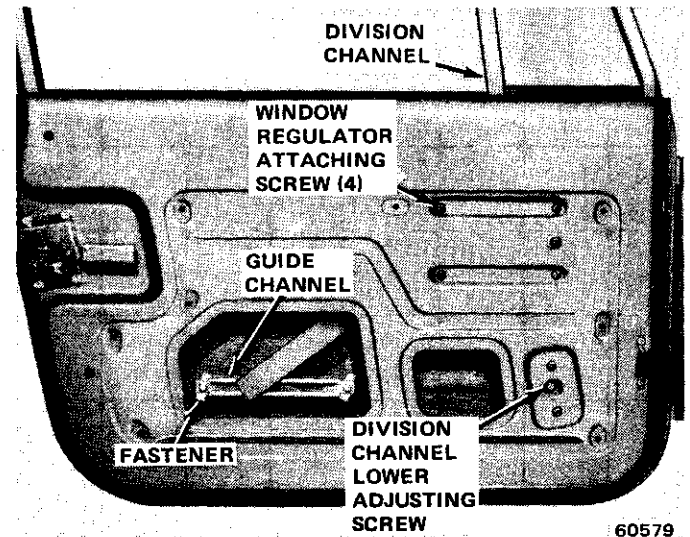

Fig. 3J-1 Door Glass Replacement—CJ Models
(1) Remove door trim panel and water shield.
(2) Loosen division channel lower adjusting screw and move division channel fore or aft to obtain the desired door glass operation (fig. 3J-1).
(3) Tighten division channel lower adjusting screw.
(4) Install water shield and door trim panel.